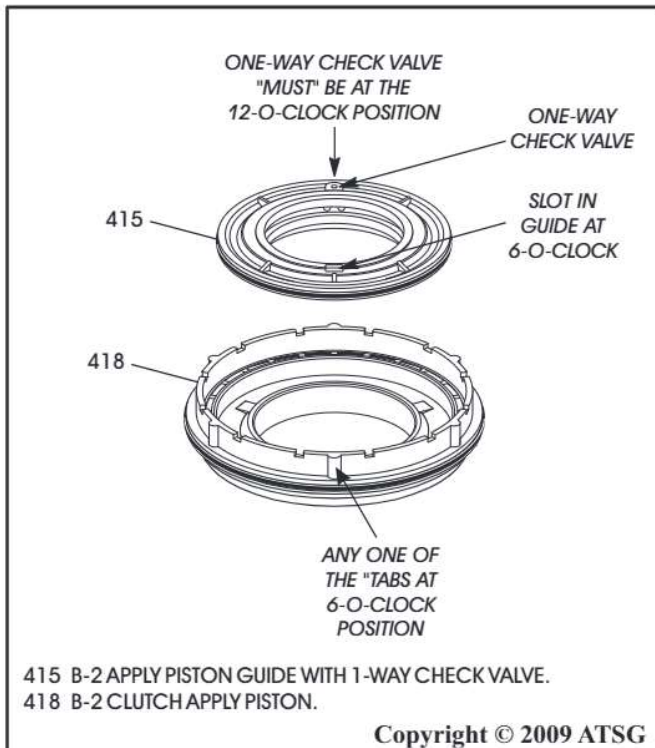

Figure 157
12. Place the B-2 apply piston on flat work surface with one of the "tabs" at **exactly** the 6-O-clock position, as shown in Figure 157.
13. Install B-2 apply piston guide with the 1-way check valve into the B-2 apply piston with the 1-way check **exactly** at the 12-O-clock position as shown in Figure 157.
Refer to Figure 157 and 158.